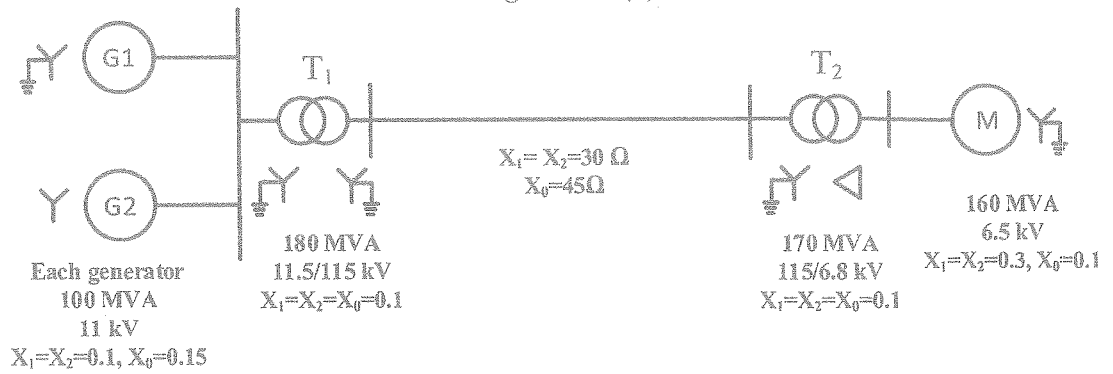

Figure Q2
b) Two generators are operating in parallel and supplying a synchronous motor as shown in single line diagram in Figure Q2. Power ratings, voltage ratings and per unit sequence reactances of the system elements are shown in the figure. Synchronous motor is drawing 60 MW of power at 0.8 power factor lagging at 6 kV when a single line to ground fault occur at the middle of the line through a fault resistance of 4Ω .